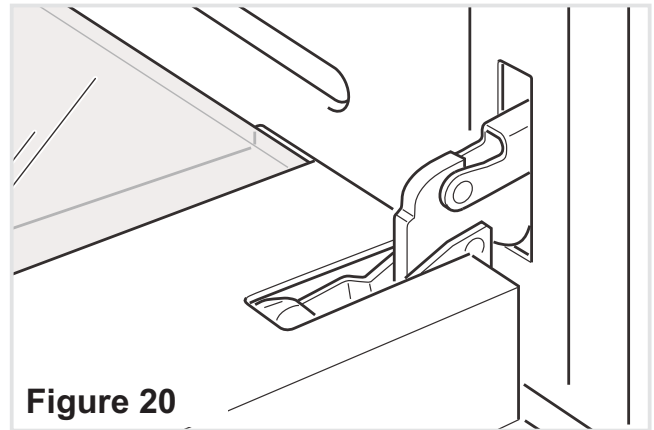

Figure 20
- Open the door to the full extent (fig. 20).